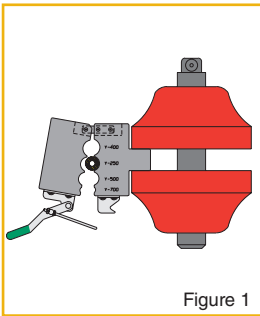

Figure 1
2. Insert the hose up through the HAC, leaving enough hose extending up from the clamp to install the appropriate fitting (Figure 1).